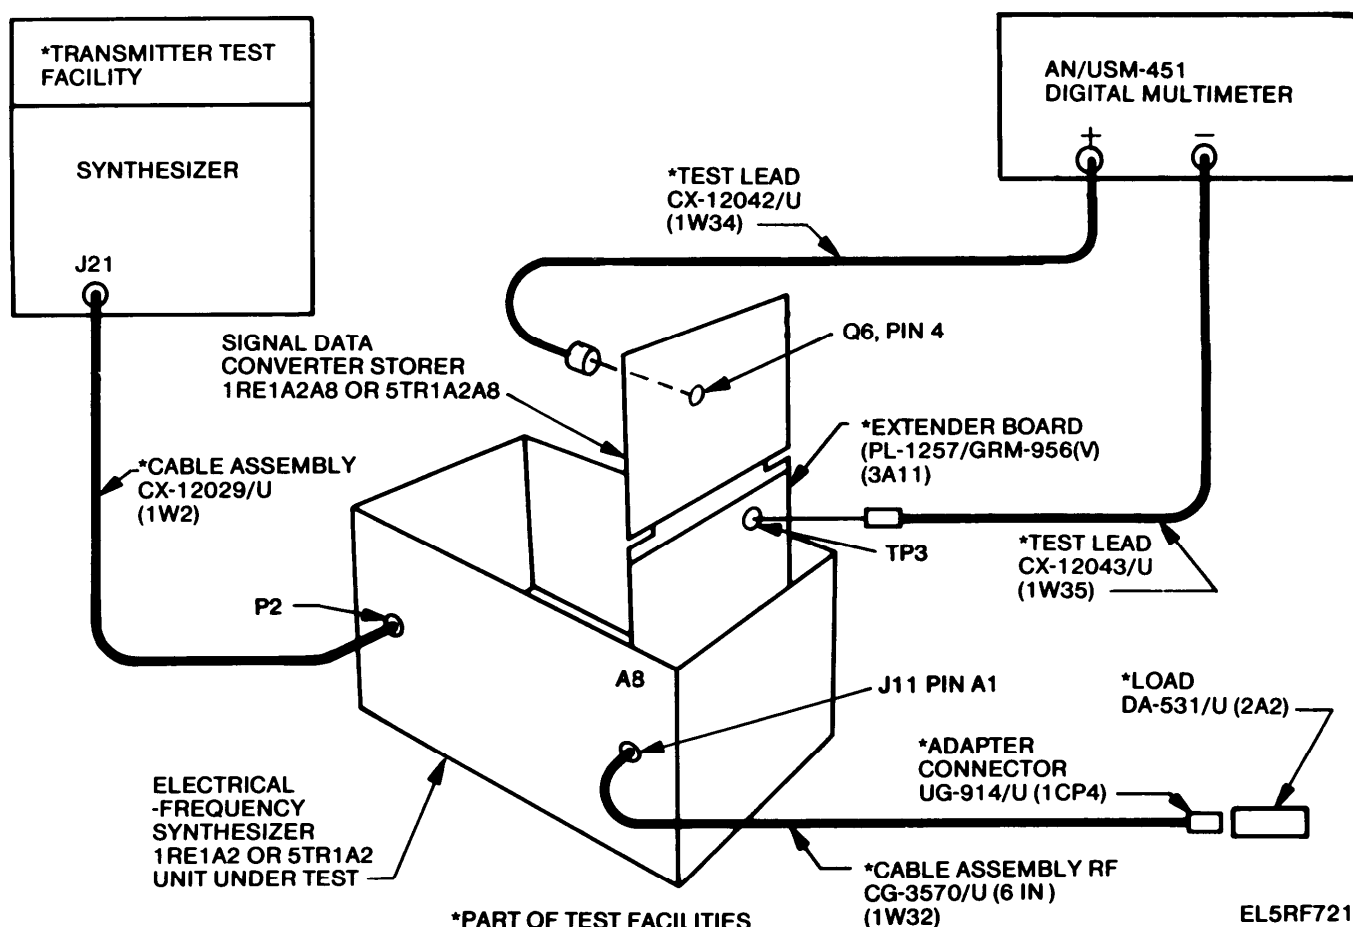

Figure 3-79. Field Effect Transistor, Operating Voltage Adjustment, Test Setup.
(a) Extend signal data converter-storer board 1RE1A2A8 or 5TR1A2A8 from the synthesizer, using extender board PL-1247/GRM-95 (V) as shown in figure 3-79 and set test facility control switch S17 to ON.